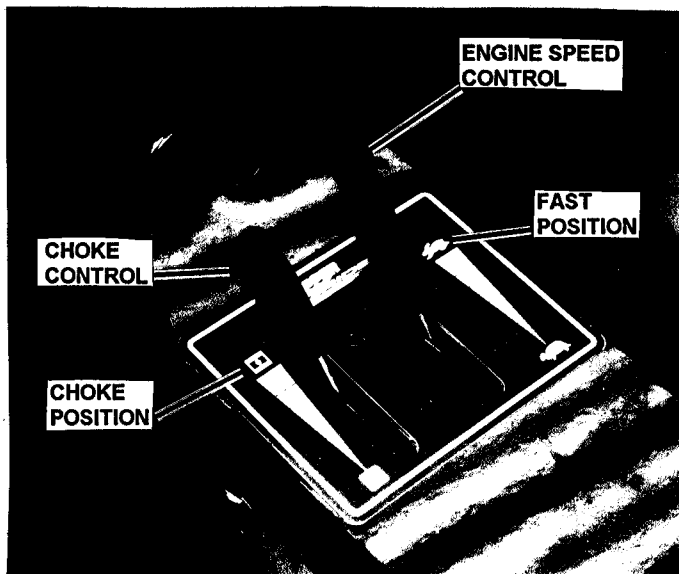

FIGURE 2.5
4. Move choke control to the choke position to start a cold engine. See Figure 2.5.
5. Move engine speed control to the Rabbit "Fast" position. See Figure 2.5.